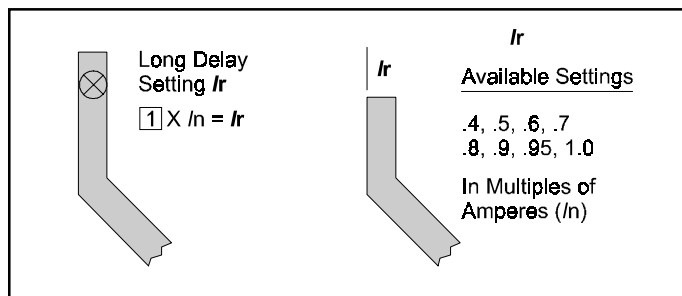

Figure 4.1 Long Delay Current Settings
The available settings, along with the effects of changing the settings, are given in Figures 4.1 through 4.8. Sample settings are represented in boxes (2).
There are 8 available Long Delay Settings, as illustrated in Figure 4.1. Each setting, called ( $I_r$ ), is expressed as a multiple (ranging from .4 to 1) of the current ( $I_n$ ).